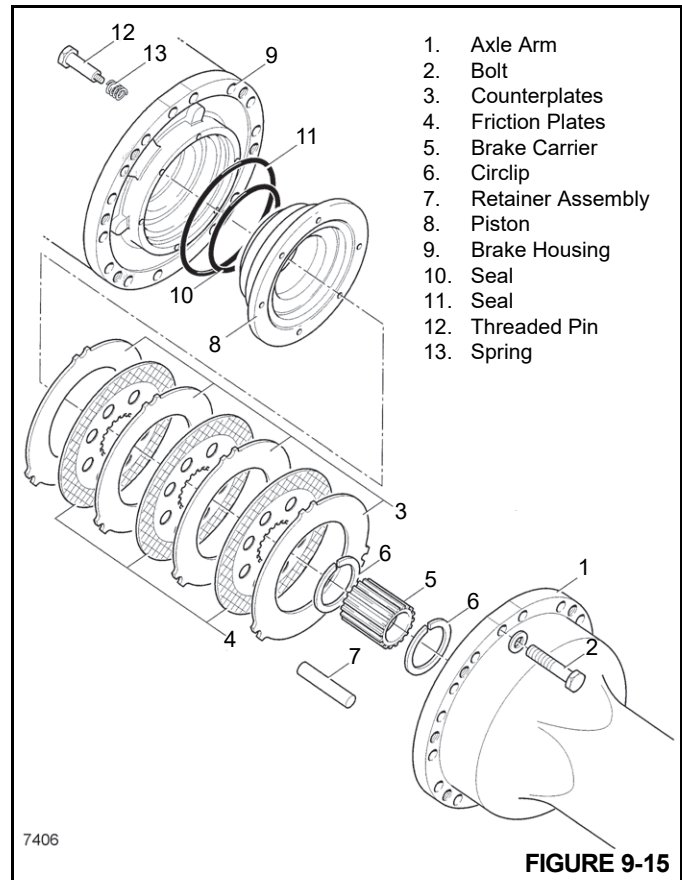

FIGURE 9-15
3. Place the housing and piston on a firm flat surface, piston downwards. Install springs **13** and threaded pins **12** Figure 9-15.